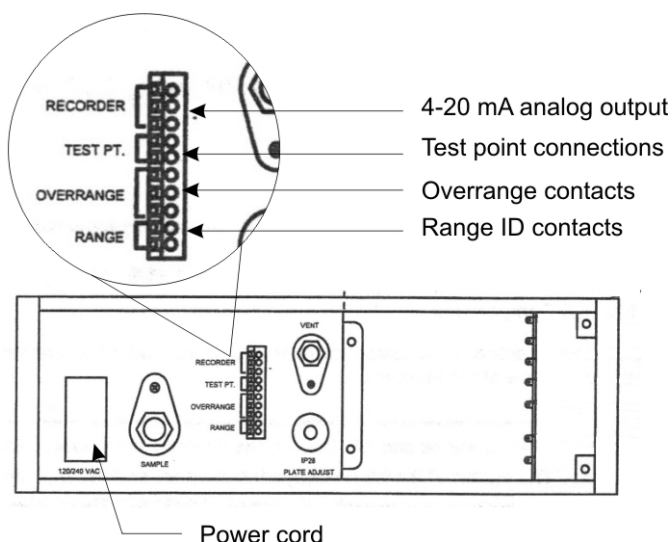

Figure 3-2: Electrical Connections
Electrical Connections are made at the rear of the instrument. See Figure 3-2.
- Connect the 4-20 mA analog recorder output terminals to a recorder, if desired. The recorder output terminals are located on the terminal strip on the back of the analyzer as shown in Figure 3-2.
- Alter the geometry of the system in Figure 3-2, as necessary, to suit your specific needs and to maintain access to items on the rear panel. However, alterations should be adhered to schematically.
To purge the analyzer (see Figure 3-2):